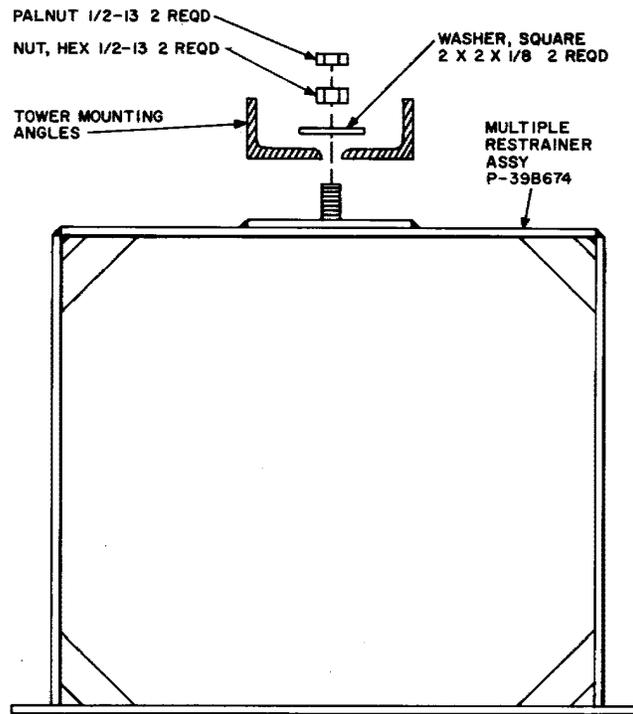

Fig. 14—Installation of Multiple Restrainer
**2.35** Multiple restrainers are used to support the flexible waveguide coming from the combining network. The multiple restrainers are installed as shown in Fig. 14 using the hardware supplied with the restrainer. The hanger plate assembly is attached to the restrainer assembly in the appropriate position depending on the position selected for the optimum run.